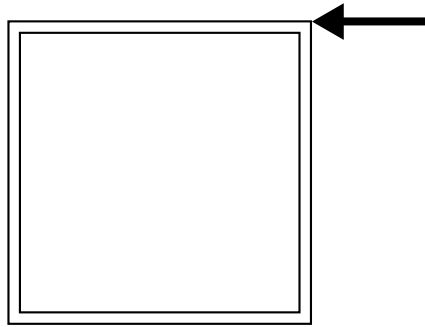

Fig.3
- 6 Fig. 3 shows a square metal frame with a horizontal force acting on it. Add one additional member to the frame that would prevent it changing shape under these conditions. [2]